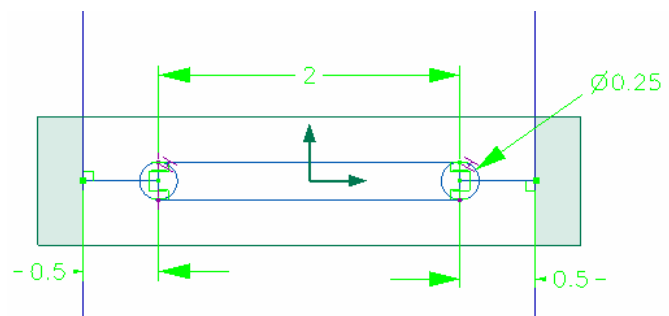

Figure 45. Layout for Slot.
98. Figure 45 shows the slot drawn before deleting unnecessary lines.